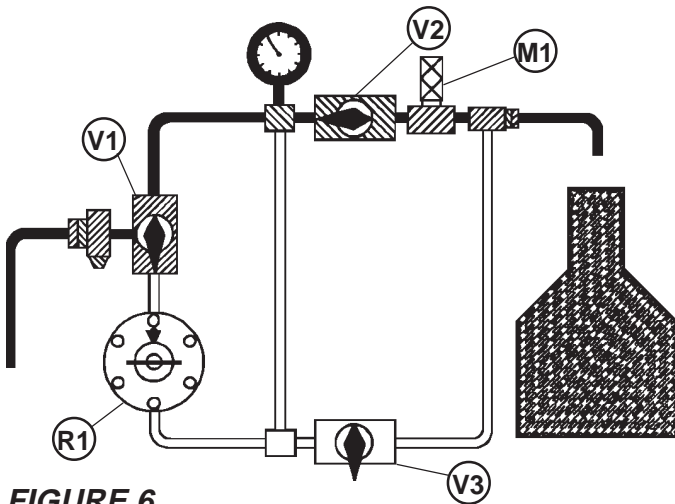

FIGURE 6
28. Rotate  $V_1$  to the vertical position to remove pressure regulator from the fluid circuit and to place the simulated leak on the product line. This allows the line pressure to drop to zero. Leave  $V_2$  open and observe zero psi on the FTA pressure gauge. This should cause the leak detector to move into the leak sensing position. See Fig. 6.